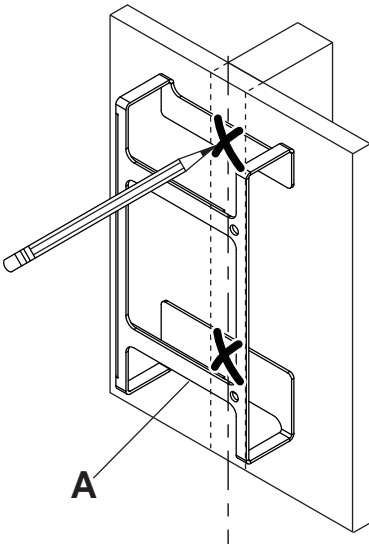

fig. 1.1
- 1** Use a stud finder to locate the edges of the stud and draw a vertical line down the center of the stud. Place security bracket (A) on wall. Level and mark center of two mounting holes as shown in figure 1.1. Drill two 5/32" dia. pilot holes to a depth of 1-1/4". Make sure that security bracket (A) is level and secure it using two wood screws (D) as shown in figure 1.2.